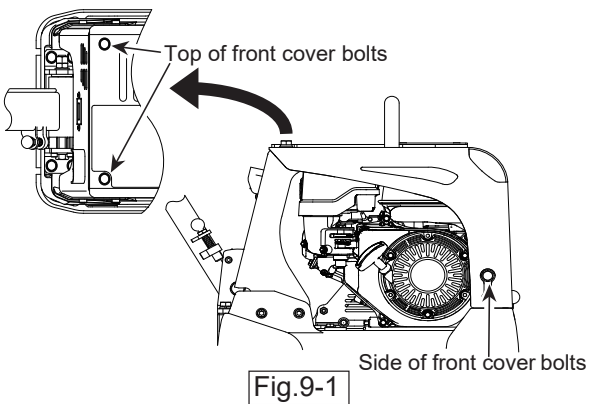

Fig.9-1
- 1 Remove the bolts on the front cover. Loosen the bolts on the side of front cover. (Do not remove.) (Fig.9-1)
- 4 Return the front cover to original position slowly.Tighten the bolts in the specified torque. (Fig.9-1)